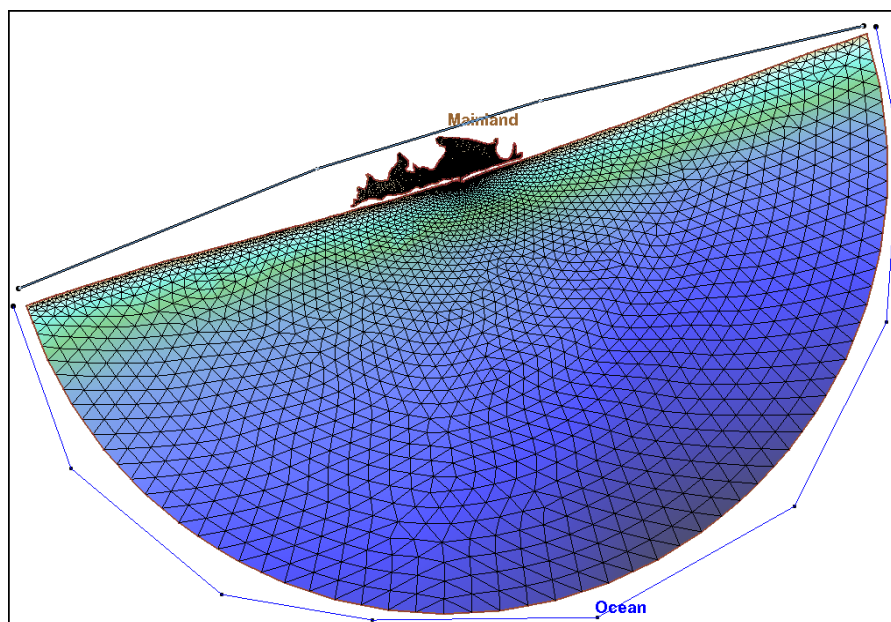

Figure 3 Feature arcs after boundary types have been assigned
4. Using the **Select Feature Arc**  tool, double-click the arc representing the mainland boundary as shown in Figure 3 to open the *Assign Linear BC* dialog.
With both arcs assigned, the boundary condition coverage will be displayed as in Figure 3.